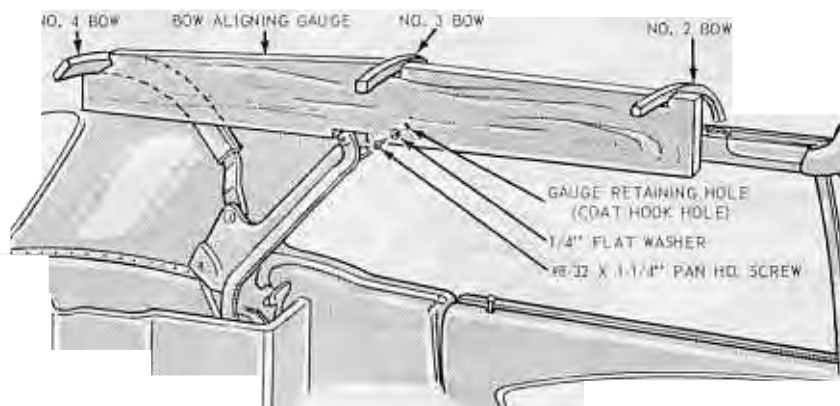

FIG. 15—Bow Locating Gauge Installation—Mustang
13. Install the two fabricated bow locating gauges as shown in Fig. 15.
15. With the bow locating gauge in place (refer to Step 13 under Removal and Fig. 15), install the belt center tacking strip attaching screws to approximately $\frac{1}{4}$ to $\frac{1}{2}$ -inch from the bottoming out position. Install the belt side front tacking strip attaching screws and tighten to within $\frac{1}{4}$ to $\frac{1}{2}$ -inch of bottoming.